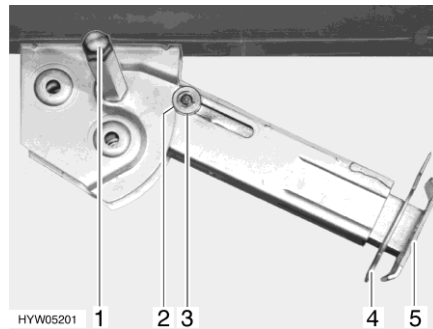

Fig. 46 Steady leg
- Place the socket spanner on the hexagon nut (Fig. 46,1) and rotate until the steady leg is in a perpendicular downward position.
- Remove the splint (Fig. 46,4) out of the support foot extension (Fig. 46,5).
- Place the socket spanner on the hexagon nut (Fig. 46,1) and rotate until the steady leg is clear of the ground.
- Push in the support foot extension (Fig. 46,5) and insert the splint (Fig. 46,4) in the drilled hole in the support foot extension.
- Rotate the hexagonal nut (Fig. 46,1) with the socket spanner until the steady leg has swung upwards and the guide disc (Fig. 46,3) has completely retracted into the notch (Fig. 46,2).